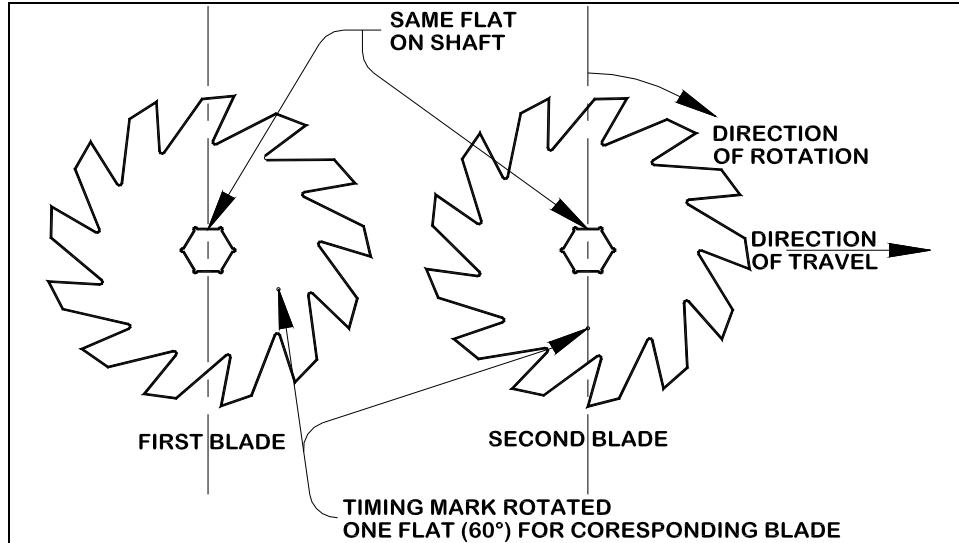

Figure 11. VC50-040 & 049 Timing
2. Once the first blade has been placed on the shaft, note the orientation of the timing mark and rotate the next blade one flat on the hex shaft (Fig. 11).